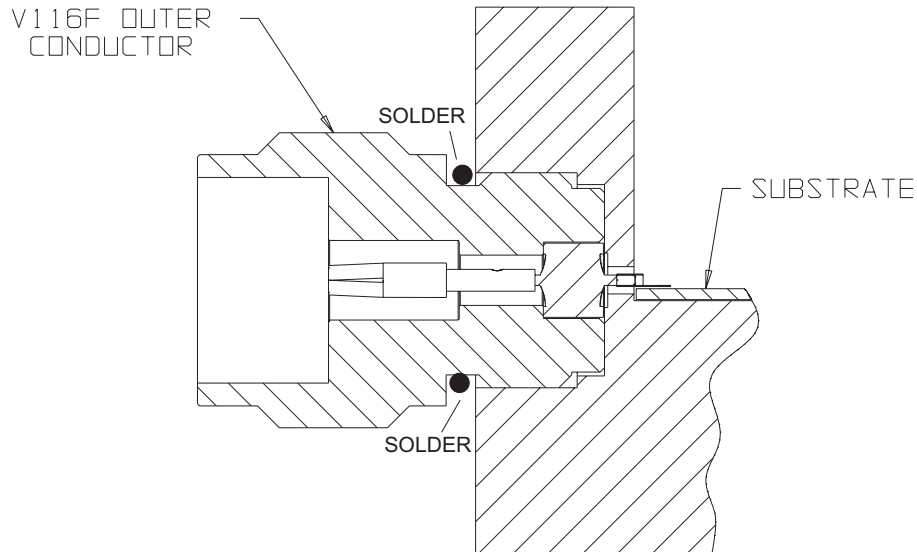

Figure 3. V116F Assembly
4. Connecting to the Substrate (Figures 3 and 4)
- a. Install the substrate as shown in Figure 3.